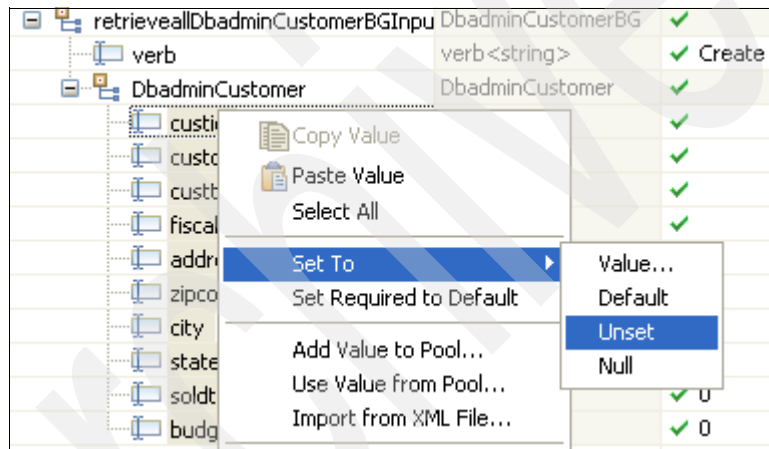

Figure 7-15 Unsetting all DBadminCustomer attributes
5. In the initial request parameters section, unset all attributes by selecting all the DbadminCustomer attributes. Right-click, and select **Set To** → **Unset** as shown in Figure 7-15.